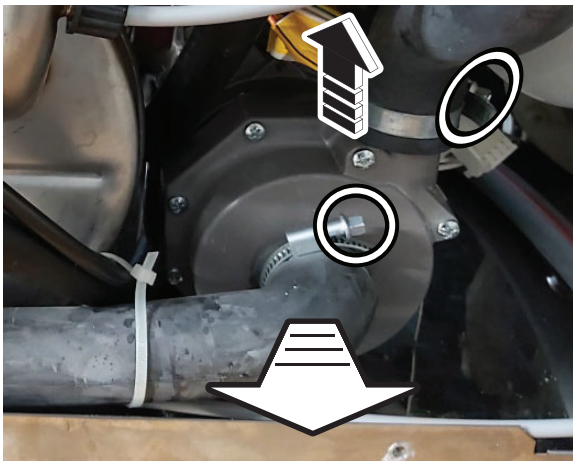

Fig. 1
2. Remove the clamps, and remove the hoses (Fig.1).